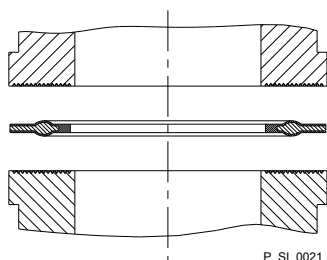

Fig. 12: Moulded composite seals with grooved insert
- The pump is supplied with PTFE moulded composite seals with a flare, which are used for the pump connections. They seal the connections between grooved pump valves and ProMinent grooved inserts - see Fig. 12.